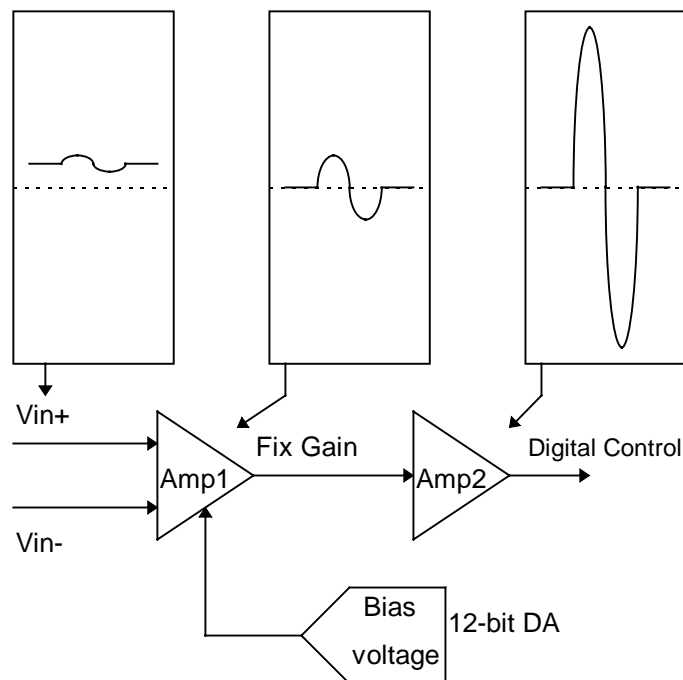

Fig.3
In ISO-LDH/L board, we use two stage amplifier for flexible signal condition. The first amplifier, which is fixed gain, with digital controllable bias voltage can adjust the input signal from loadcell to the suitable range for next amplifier. The next amplifier is digital controllable from 1/10/100/1000 (for ISO-LDH or 1/2/4/8 for ISO-LDL). When measure the dynamic variation of signal, we may amplify the signal as large as possible without clamping. The amplifier diagram is shown in fig.3
In general, there are 3 different analog signal connection method as shown in Fig1 to Fig3. The Fig1 is suitable for grounding source analog input signals. The Fig2 can measure more channels than in the Fig1 but only suitable for large analog input signals. The Fig3 is suitable for thermocouple and the Fig4 is suitable for floating source analog input signals.
**Note : In Fig3, the maximum common mode voltage between the analog input source and the AGND is 70Vp-p, so the user must make sure that the input signal is under specification first. If the common mode voltage is over 70Vp-p, the input multiplexer will be damaged forever.**
- 2. Thermocouple input signal → select Fig3**
**CAUTION :** In Fig3, the maximum common mode voltage between the analog input source and the AGND is 70Vp-p, so the user must make sure that the input signal is under specification first. If the common mode voltage is over 70Vp-p, the input multiplexer will be damaged forever.